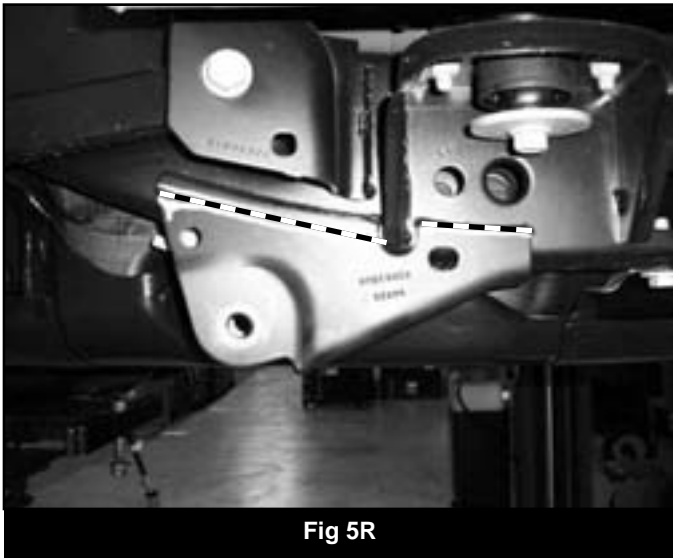

Fig 5R
17. The factory LCA mount must be cut off to provide clearance for the new arms under suspension compression. Mark and cut the LCA mount at frame. Cut off bottom and outside of bracket. The inside wing of the bracket can remain intact on the passenger's side, the driver's side can be completely removed. Note: Take care not to cut into the frame. (Figures 5R/6R)